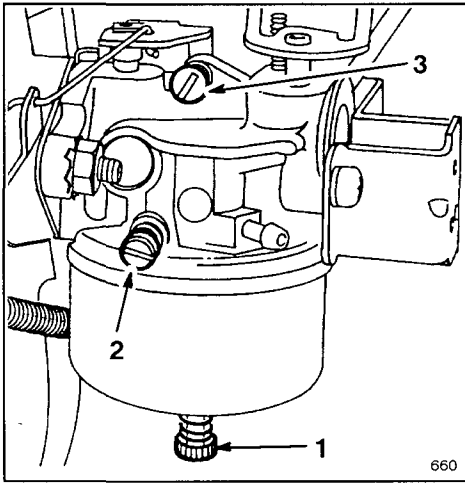

Figure 29
2. Power Adjusting Screw (Fig. 29)—Close screw by gently rotating it clockwise until a slight seating resistance is felt. Next, rotate power adjusting screw one full turn— 360° —counterclockwise.
3. Idle Mixture Screw (Fig. 29)—Close screw by gently rotating it clockwise until a slight seating resistance is felt. Next, rotate idle mixture screw $1-1/2$ full turns counterclockwise.
5. Rotate power adjusting screw (Fig. 29) clockwise—in— $1/8$ turn at a time until engine misses because of a lean gasoline mixture. Then rotate screw counterclockwise—out— $1/8$ turn at a time until engine runs unevenly because of a rich gasoline mixture. Next, rotate power adjusting screw clockwise, back to the midpoint between the rich and lean settings, so engine runs smoothly.
7. Rotate idle mixture screw (Fig. 29) clockwise—in—1/8 turn at a time until engine begins to miss because of a lean mixture. Then rotate screw counterclockwise—out—1/8 turn at a time until engine runs unevenly because of rich mixture. Next, rotate idle mixture screw clockwise, back to the mid-point between rich and lean settings.
8. Again, rotate idle speed screw (Fig. 29) until engine idles at 1750 rpm.